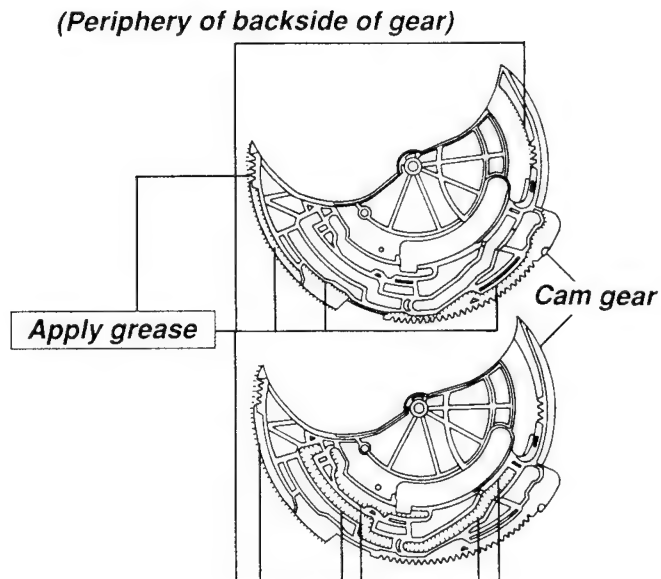

Fig. 4-16-2 View of cam gear
4. Remove stop ring (3) and remove the relay gear.
5. Remove stop ring (1) and remove the cam gear upward by releasing the hook (4).
6. Apply grease to a new cam gear. (Refer to Fig. 4-16-2 "View of cam gear".)
7. Press the T-loading link assembly and the S-loading link assembly in the direction of the arrows (A) and (B) respectively.
8. Set the hole (D) on the mode drive slider, hole (E) on the band brake lever and the hole (F) on the P. OSC drive lever, respectively, to each hole on the main base.
9. Press the moving clutch lever in the direction of the arrow (G).
10. Move the claw (1) in the direction of the arrow (C) and mount the cam gear so that the hole (H) on the cam gear can match the hole on the main base.